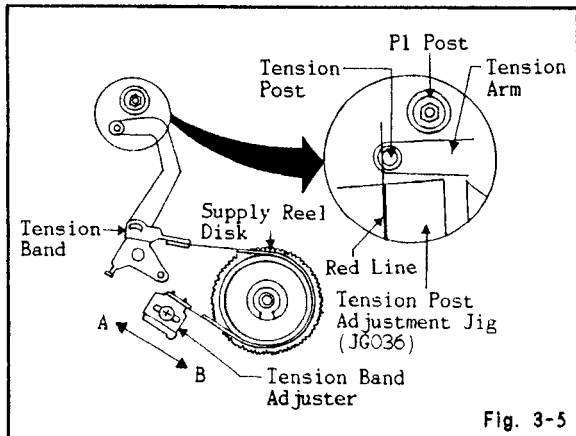

Fig. 3-5
3. Move the tension band adjuster to the "A" or the "B" direction to set tension post adjusting jig red line to the round of the tension post. (Refer to Fig. 3-5)